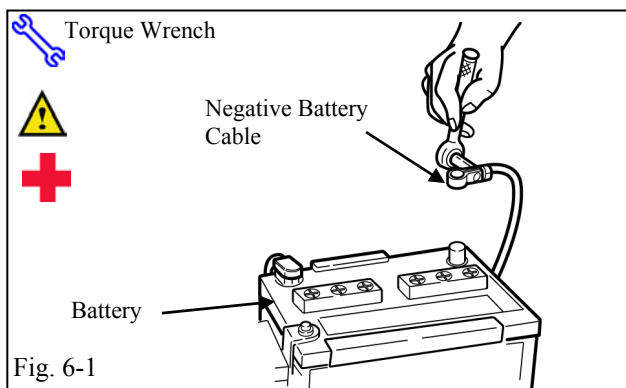

Fig. 6-1
- Reconnect the vehicle's negative battery cable. (Fig. 6-1)